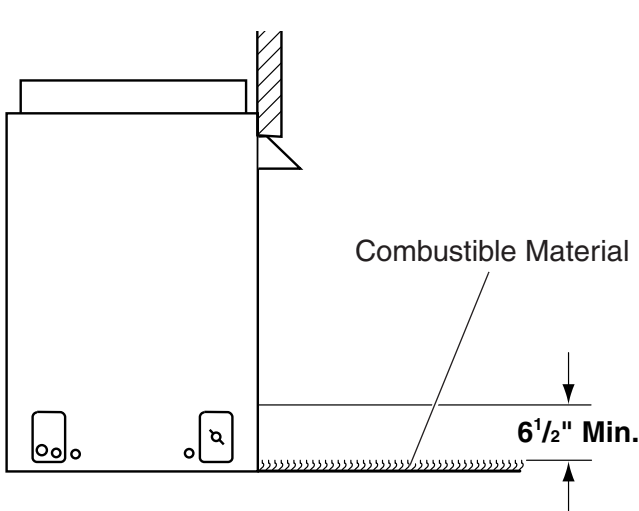

Figure 6 - Floor Clearance above Combustible Flooring Material
- Floor clearance** — This firebox hearth must be installed at least 6½" above any combustible flooring material, such as carpeting or asphalt tile, which is closer than 14" to the base of the firebox. Refer to *Figure 6*.